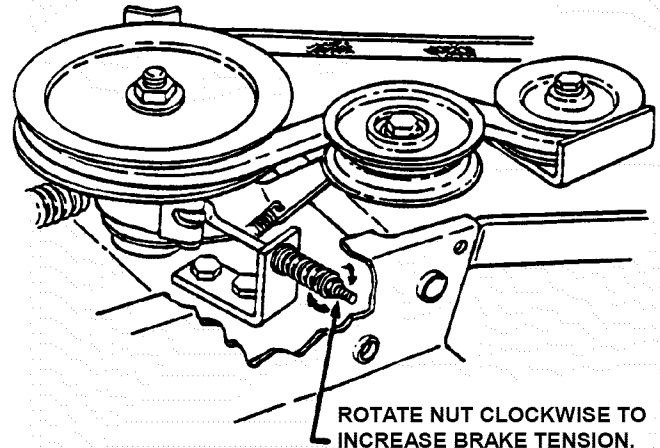

FIGURE 4.1
3. If dimension is greater than 1/8", rotate nut clockwise to increase brake tension. If dimension is less than 1/16", rotate nut counter-clockwise to decrease brake tension. See Figure 4.1.